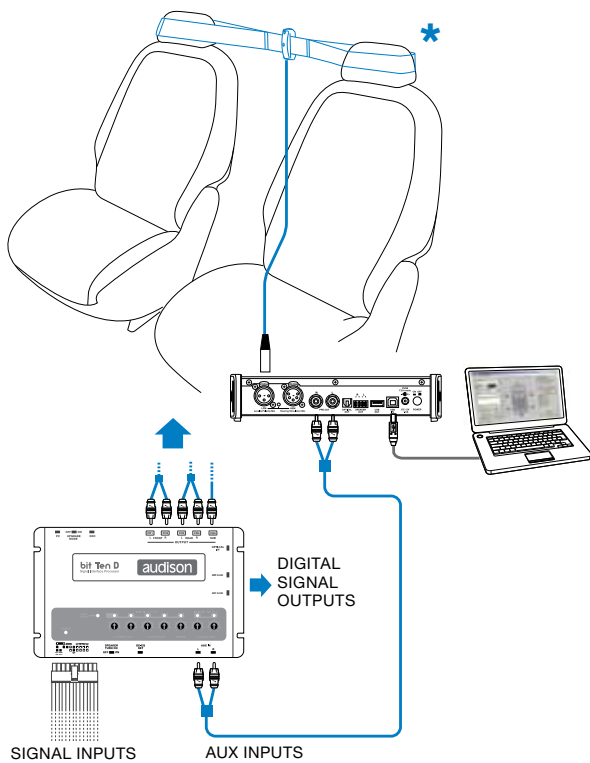

Fig 1.
1. Connect the bit Tune to the Audison bit processor, as shown in fig. 1 or 2 (see points **A** and **B**). The Level Check procedure must be performed in an environment that is not noisy, with the car's engine off, air conditioning off, doors and windows tightly closed and radio frequency devices away from the car's passenger compartment